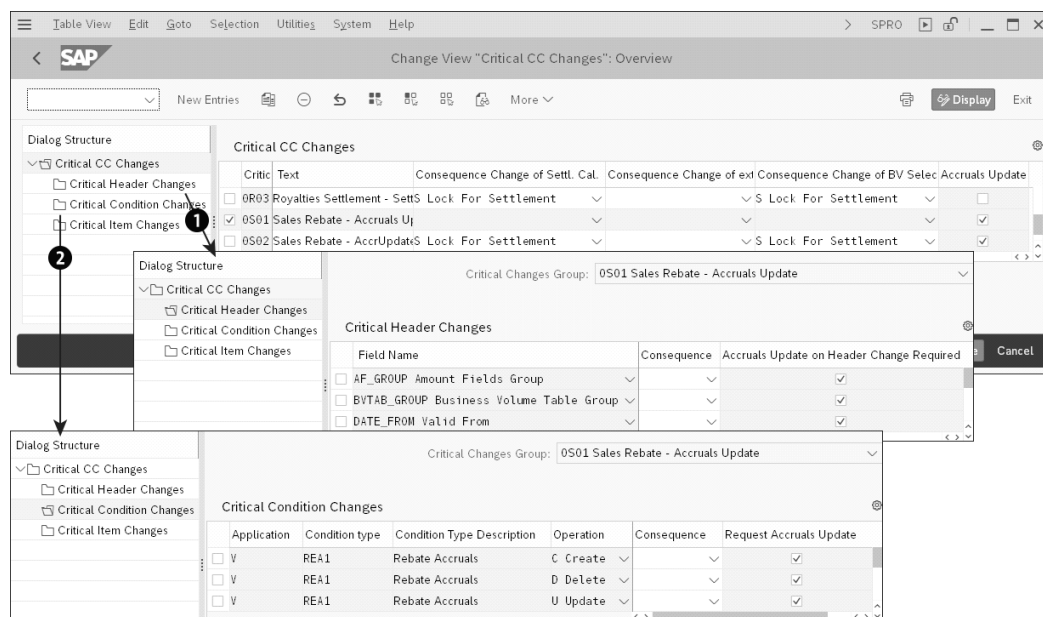

Figure 5.30 Critical Changes Groups Configuration for Sales Rebates
To display/maintain the critical changes groups, follow the menu path **SAP Customizing Implementation Guide • Logistics – General • Settlement Management • Condition Contract Management • Condition Contract Maintenance • Define and Configure Critical Changes Groups**. Figure 5.30 shows what you'll see following the menu path and screen commands as specified.
Browse the SAP out-of-the-box configuration for the **Critical Changes Group 0501**, find it in the **Critical CC Changes** list, and select the corresponding line, as shown in the top screen in Figure 5.30. When creating a new **Critical Changes Group**, click the **New Entries** button or press **[F5]**, choose a four-character code, and assign a description (**Text**).
You can then double-click on either **Critical Header Changes** (see Figure 5.30 ❶) or **Critical Condition Changes** (see Figure 5.30 ❷) in the **Dialog Structure** menu on the left of the screen.